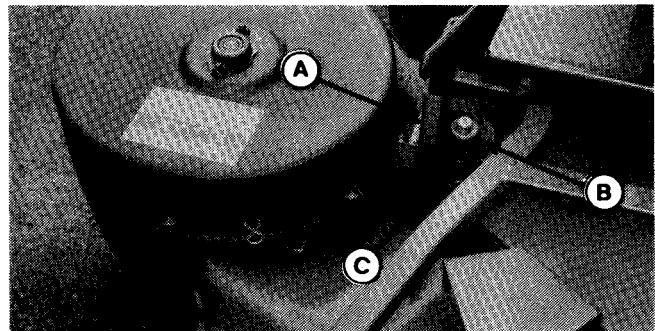

Figure 19.
- b. Raise the flap (A, figure 19) and install the blower drive belt (C) in the top groove of the pulley (B).